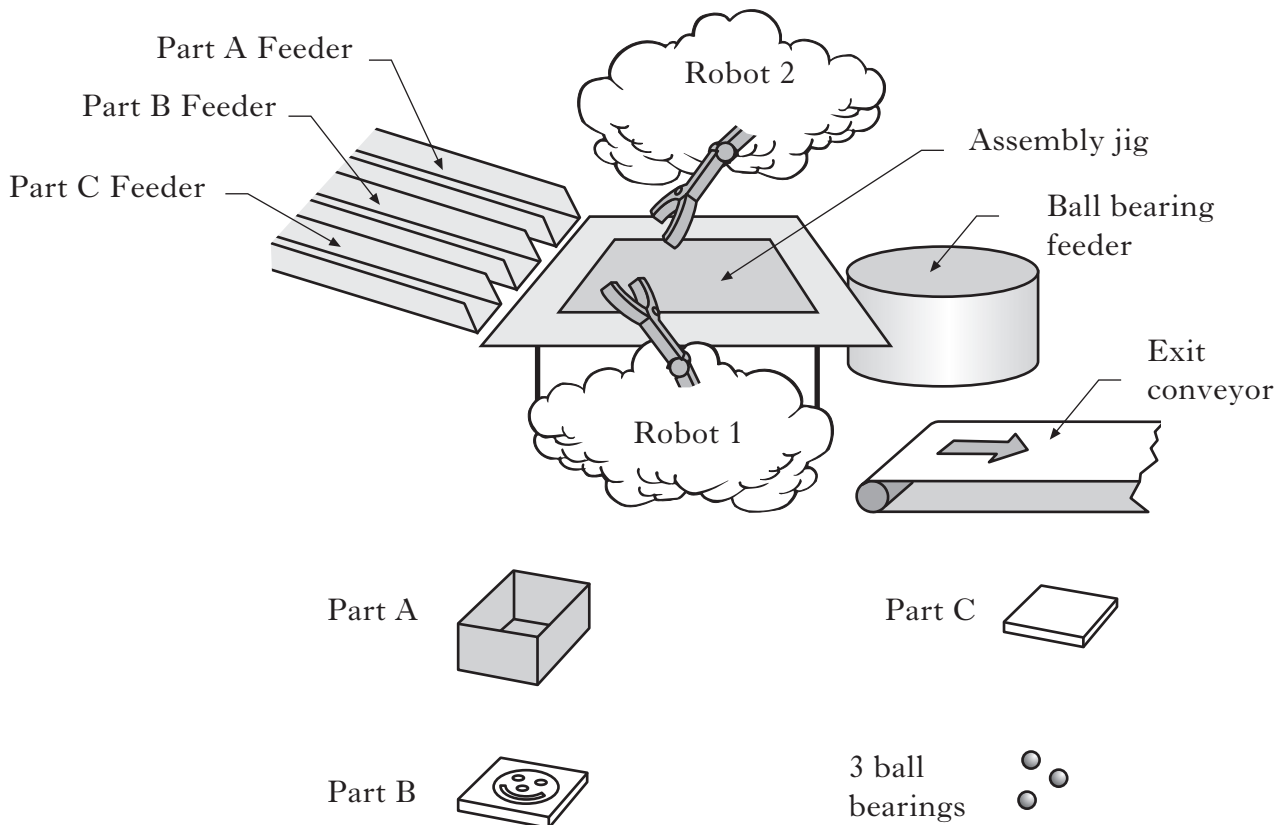

Figure Q11
11. Figure Q11 shows a simplified schematic diagram of a semi-automated workstation that produces a small game which will be placed in a breakfast cereal box.